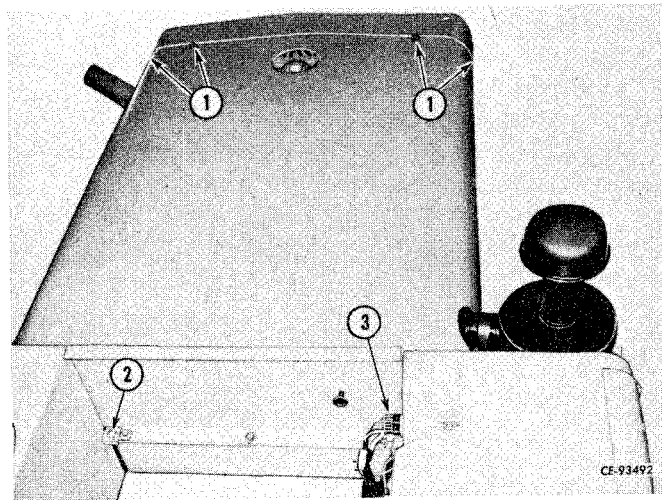

Figure 2-4
Disconnect electrical loom ends (3, Fig. 2-4).
Position hood on tractor frame and grille. Install and tighten cap screws and nuts (1, 2, Fig. 2-4). Join electrical loom connecting blocks (3). With hood mounted to grille tighten grille to tractor frame. Installation of muffler must be done in conjunction with the hood installation.